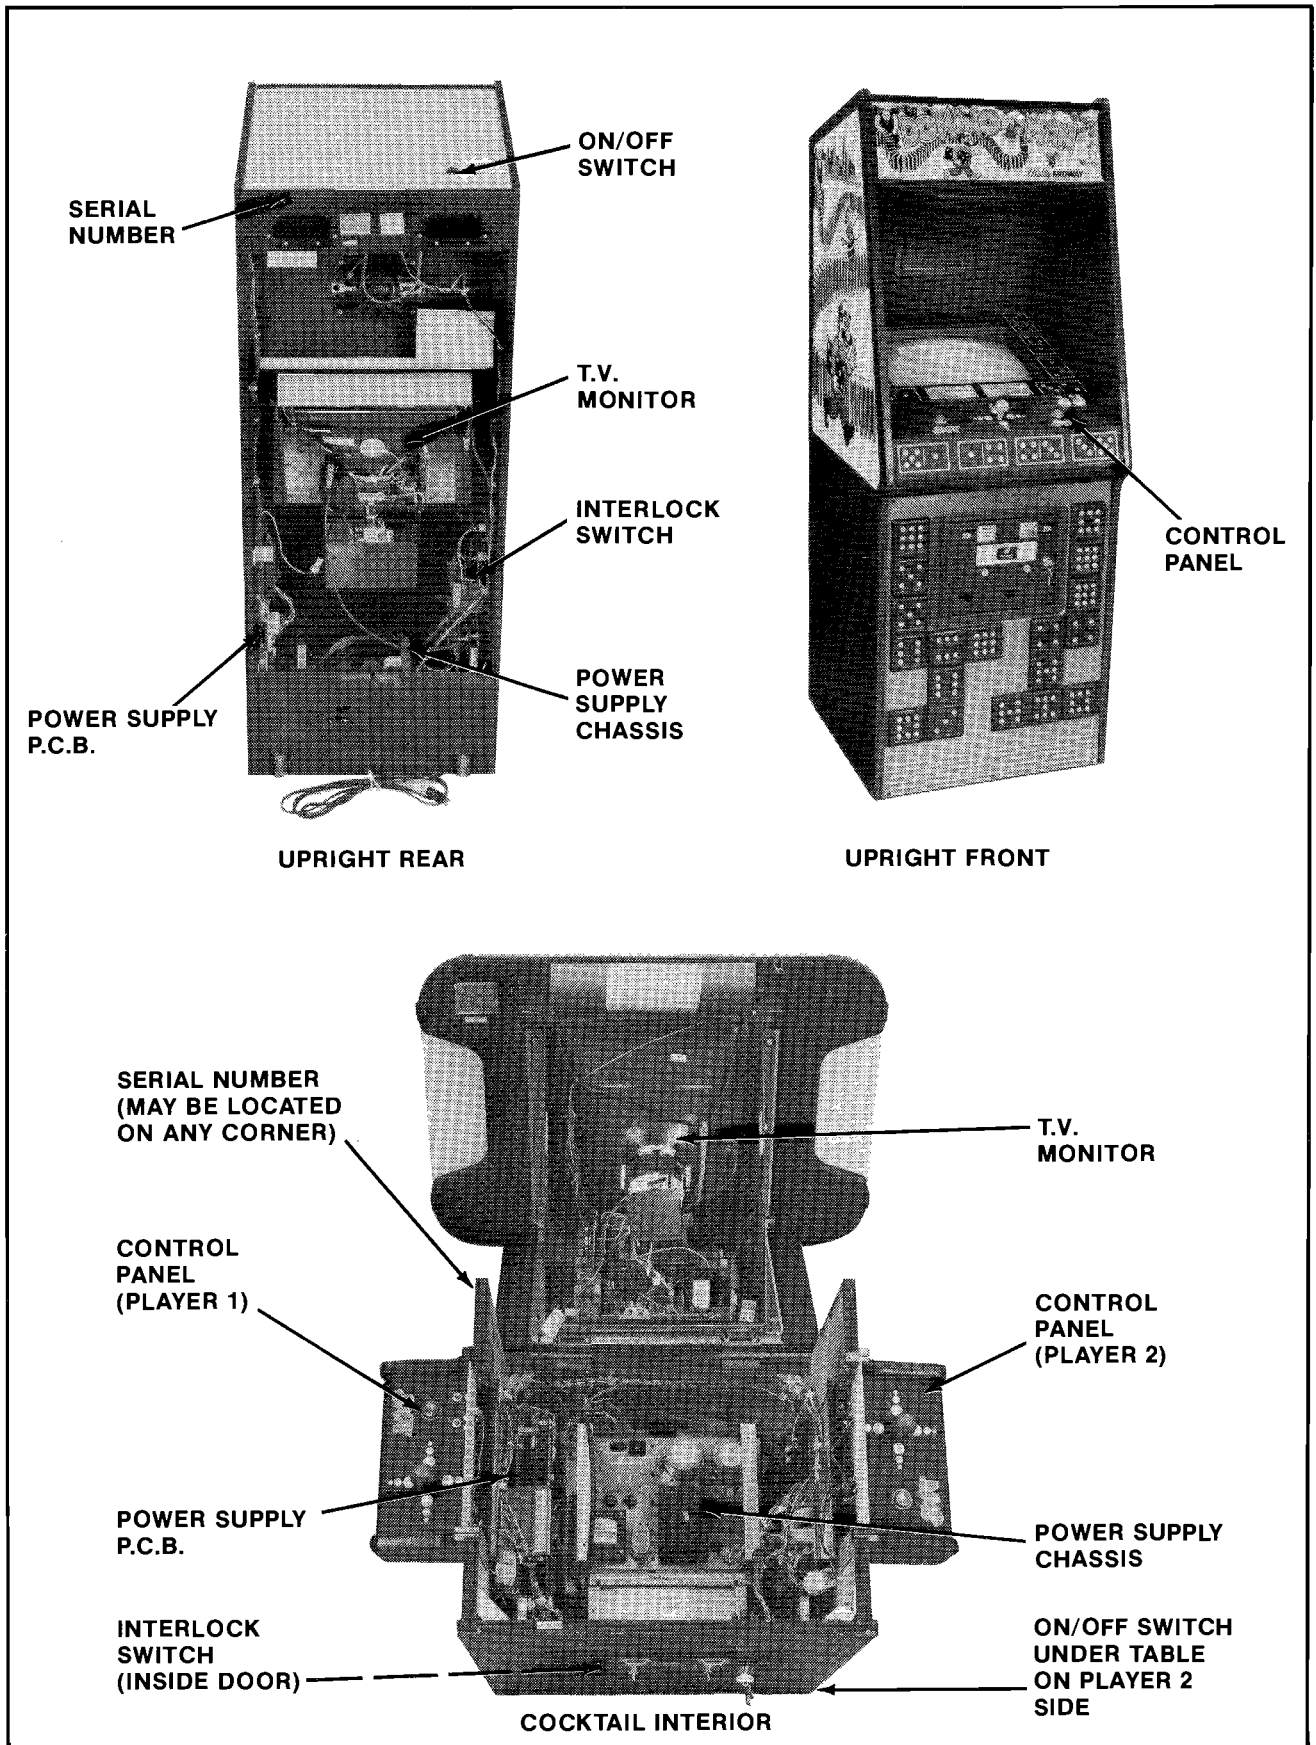

Figure 2-1 Location of Serial No., Interlock Switch, On/Off Switch, & Major Sub-Assemblies
5. Open the cabinet and inspect the inside of the game for any signs of damage. See Figure 2-1.
- Make sure all printed circuit boards (P.C.B.'s) are firmly seated in their connectors. See Figure 2-1. These connectors are also keyed. The
- Note the location of the game's serial number. See Figure 2-1.
- Check all major subassemblies to be sure they are mounted securely. These are called out in Figure 2-1.
## 3. Interlock and power ON/OFF switches: See Figure 2-1.
The game ON/OFF switches for both models are located as shown in Figure 2-1. Turn the game on and allow it to warm up a few minutes.